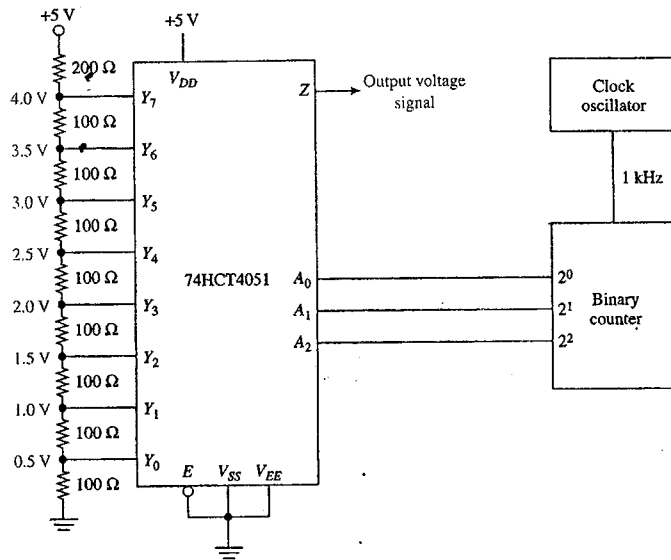

Figure 1
- (b) Determine the voltage level of the output voltage signal of a 74HCT4051 analog multiplexer in Figure 1 when the binary count reaches 110_2 .